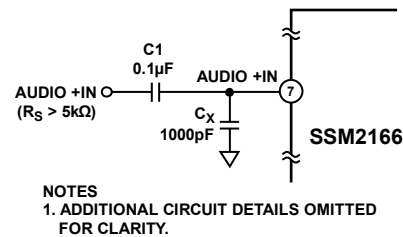

Figure 25. Circuit Configuration for Use with High Impedance Signal Sources
- When using high impedance sources ($\geq 5 \text{ k}\Omega$), system gains in excess of 60 dB are not recommended. This configuration is rarely appropriate because virtually all high impedance inputs provide larger amplitude signals that do not require as much amplification. When using high impedance sources, however, it can be advantageous to shunt the source with a capacitor to ground at the input pin of the IC (Pin 7) to lower the source impedance at high frequencies, as shown in Figure 25. A capacitor with a value of 1000 pF is a good starting value and sets a low-pass corner at 31 kHz for 5 k Ω sources. In applications where the source ground is not as clean as would be desirable, a capacitor (illustrated as C7 on the evaluation board) from the VCA_R input to the source ground may prove beneficial. This capacitor is used in addition to the grounded capacitor (illustrated as C2 on the evaluation board) used in the feedback around the buffer, assuming that the buffer is configured for gain.